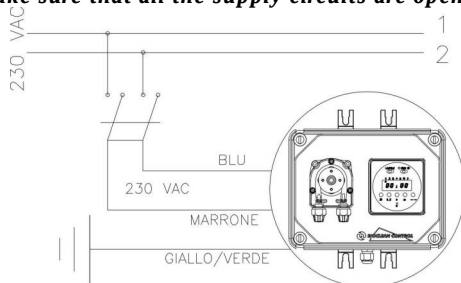

Fig. 2
1. Disconnect the pins from the mains or by means of a two poles switch with 3 mm minimum distance between the contacts. (Fig. 2).
b. - Carefully observe the regulations in force in the various countries as regards electrical installations (Fig.2). **When the supply cable is devoid of a plug, the equipment should be connected to the supply mains by means of a single-pole circuit breaker having a minimum distance of 3 mm between the contacts. Before accessing any of the electrical parts, make sure that all the supply circuits are open.**